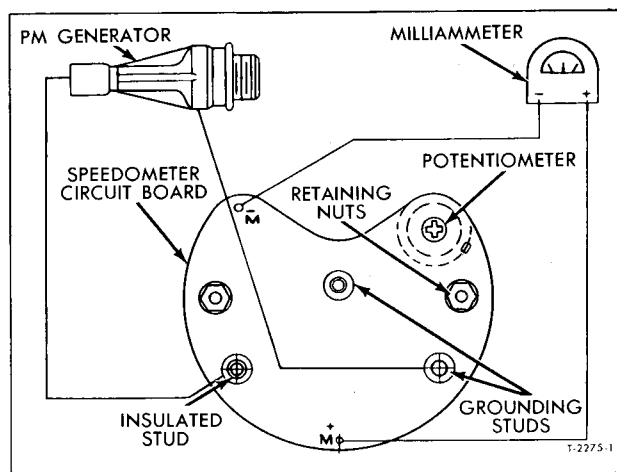

Figure 12—Speedometer System Units and Test Schematic
DISASSEMBLY (Fig. 12)
CIRCUIT PACKAGE (Fig. 12)
3. Make remainder of connections as shown in figure 12. In addition, use a 100 ohm resistor in series with milliammeter during this test.
ASSEMBLY (Fig. 12)